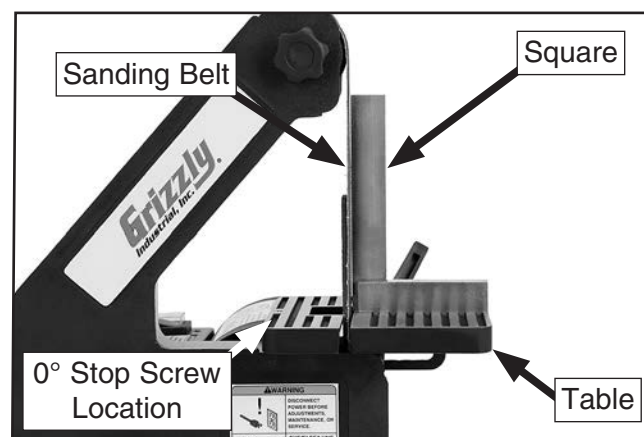

Figure 11. Adjusting 0° stop.
2. Use a machinist's square to set the table square to the sanding belt (**Figure 11**).